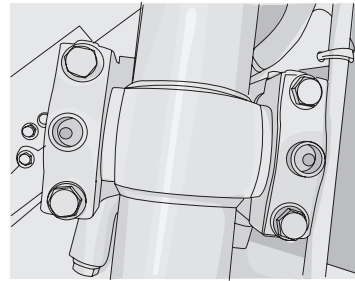

Figure 4-3
4. 4 places of oil cylinder's bracket (Figure 4-3)